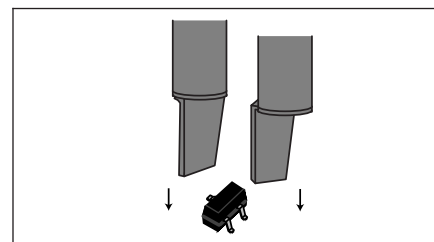

Figure 2 Position Tips
7. Lower tips over component and squeeze handpiece contacting ALL leads with tips. (See Figures 2 & 3.)